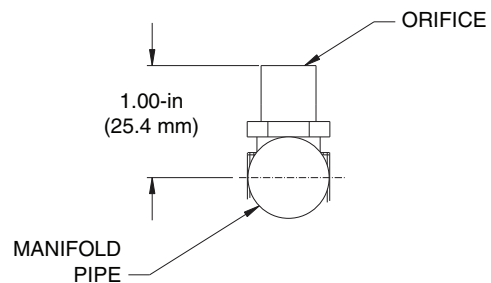

Fig. 46 — Orifice Projection
Refer to Fig. 46 for maximum projection dimension for orifice face to manifold tube.
5. If factory orifice has been removed, check that each orifice is tight at its threads into the manifold pipe and that orifice projection does not exceed maximum valve. See Fig. 46.
Ensure each replacement orifice is tight as its threads into the manifold pipe and the orifice projection does not exceed maximum value. See Fig. 46.